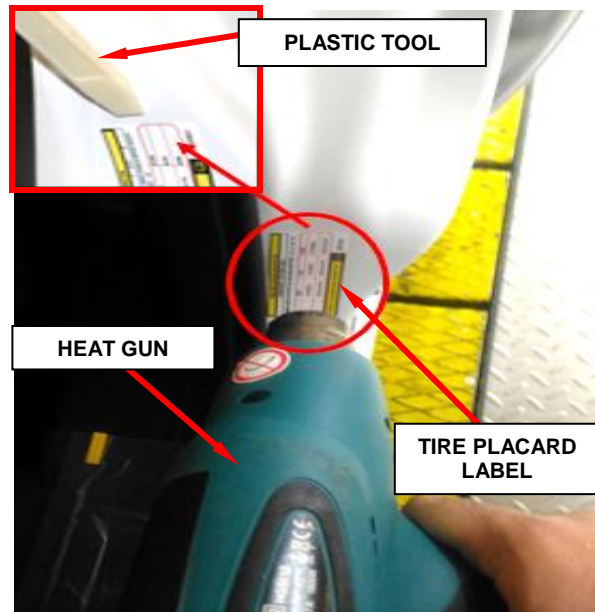

Figure 3 – Remove Tire Placard Label
- Use a heat gun to soften the tire placard label adhesive (Figure 3).
- Use a thin plastic or rubber type tool to begin lifting a corner of the tire placard label (Figure 3).